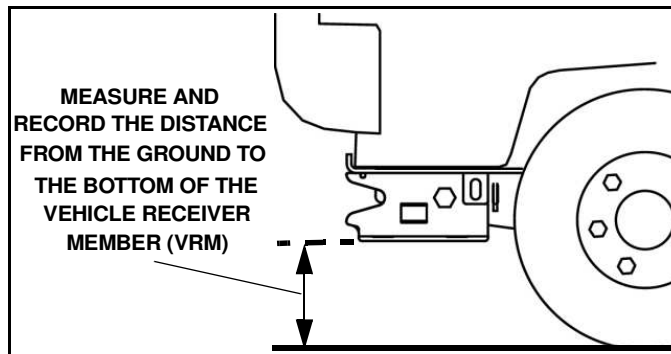

Figure 1-12
17. With the truck parked on a flat level surface, measure and record the distance from the ground to the bottom of the Vehicle Receiver Member (VRM). (See Figure 1-12).